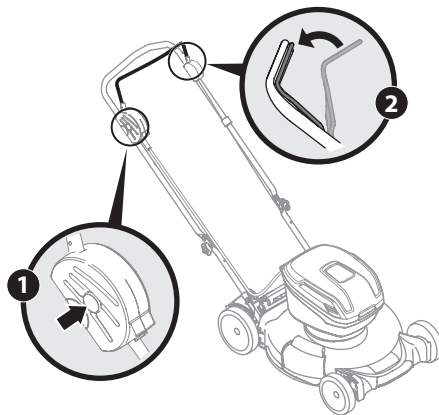

Figure 3-3
4. Standing behind the mower, press and hold the push start safety button. See Figure 3-3.